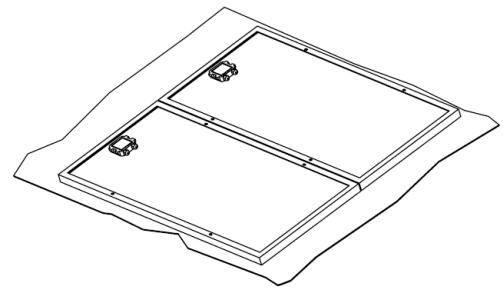

FIGURE 15
13. Unpack the 2 solar panels. Ensure there are no staples in the packaging material and lay the cardboard packaging out so that the solar panels can be gently laid out face-down on the cardboard as shown. (**FIGURE 15**). CAUTION: Do not put any weight on the solar panels or they may become permanently damaged.